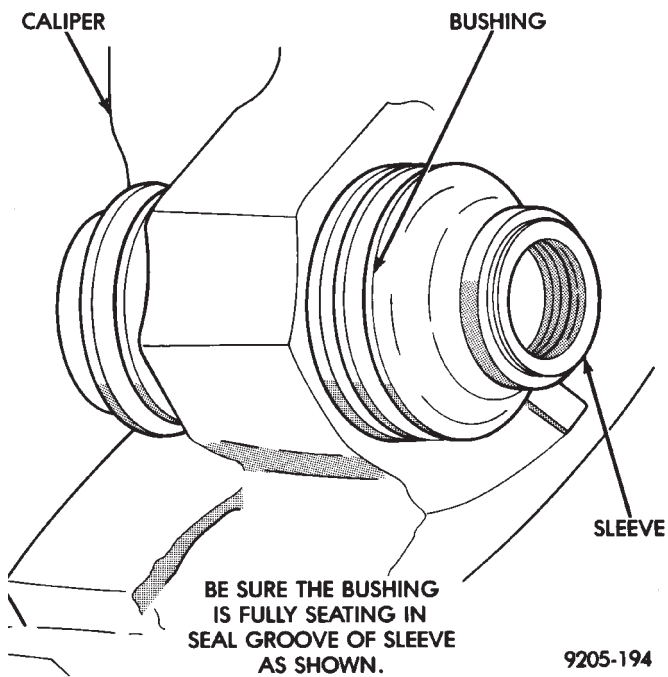

Fig. 13 Installed Caliper Bushing Sleeve
(2) Holding the convoluted end of the bushing with one hand. Push the sleeve through the bushing (Fig. 13) until the one end of the bushing is fully seated into the seal groove on the one end of the sleeve.
(3) Holding the sleeve in place work the other end of the bushing over the end of the sleeve and into the seal groove (Fig. 13). Be sure the other end of the bushing did not come out of the seal groove in the sleeve.
(4) When the sleeve is seated properly into the bushing. The sealed for life bushing can be held between your fingers and easily slid back and forth without the bushing seal unseating from the sleeve.